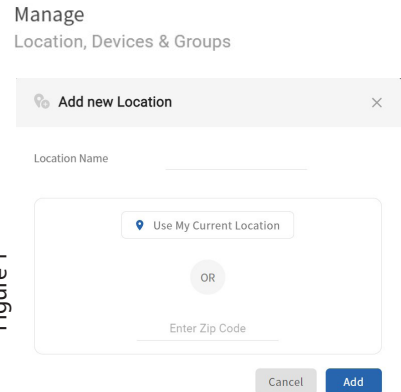

Figure 1
- a. Enter location name and a location zip code on the popup window (Figure 1).